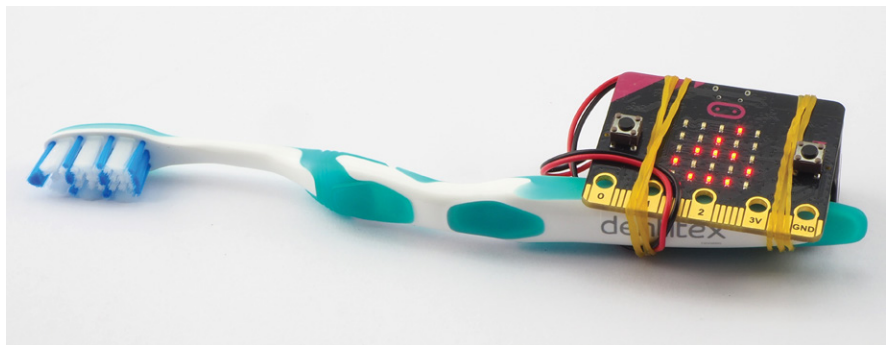

Figure 5-7: A toothbrush monitor
The Mad Scientist is usually a bit distracted by all the interesting experiments going on, so they need some help brushing their teeth thoroughly. That's why the Mad Scientist has used a micro:bit to create a toothbrush monitor (Figure 5-7) that counts the number of strokes of the toothbrush.
2. Plug the battery pack into the micro:bit and attach the battery and micro:bit to the toothbrush using elastic bands, as shown in Figure 5-7.